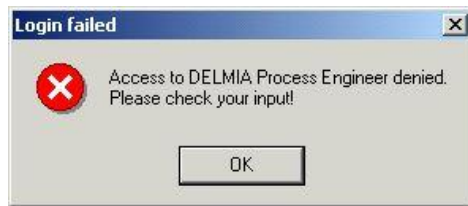

Figure 3: Login Failed Message
- 3) If the upper/lower cases have not been observed when entering the user name or password, a message appears. *Please refer to the Figure 3.*